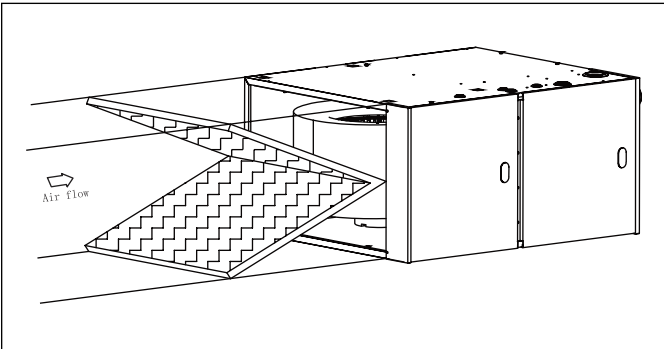

Figure 20
- ▶ If disposable filters are used, air passage through filters should be increased to twice the size of original air opening by using a transition duct or using two filters in V shape (see Fig. 20) in normal duct size.